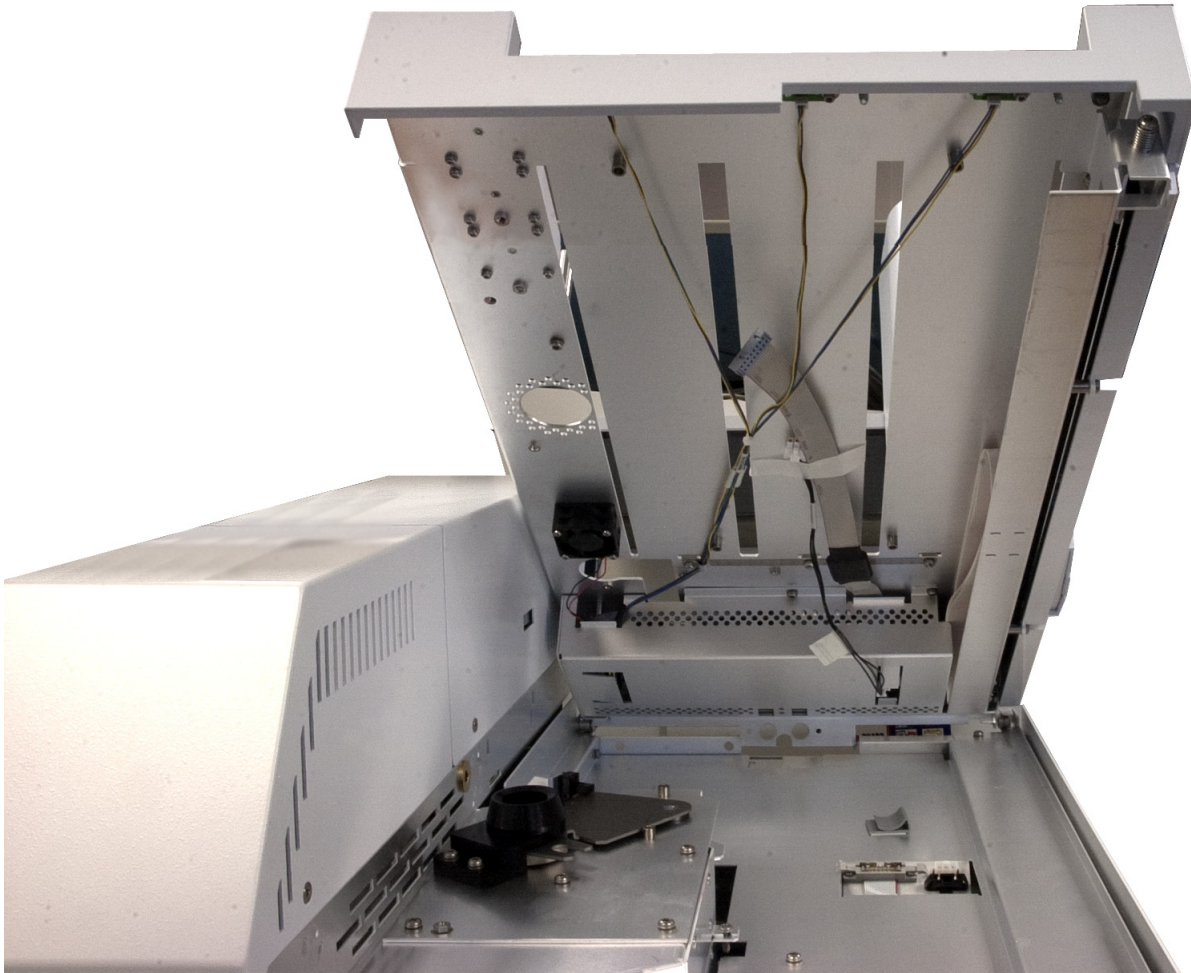

Figure 2 Placing the tray
- 2 Roll the tray back until the rollers engage the clips in the chassis. See Figure 2.